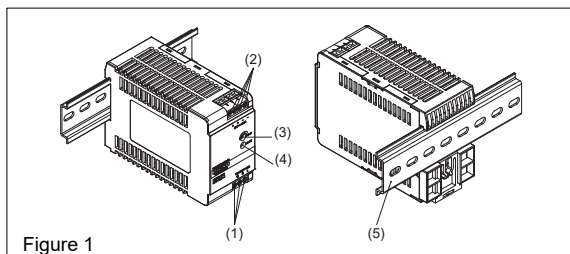
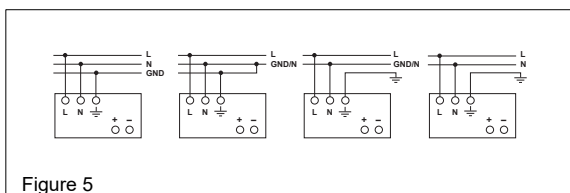

Figure 1
Figure 5
5.1. Input connection (Fig. 1, Fig. 5)
Use L, N and GND connections of input terminal connector (see Fig. 1 (1)) to establish the 100-240 VAC connection. Typical connection methods are shown in Figure 5.
5.2. Output connection (Fig. 1 (2))
Use the "+" and "-" screw connections to establish the 24VDC connection. The output provides 24VDC. The output voltage can be adjusted from 22 to 24 VDC on the potentiometer. The green LED DC OK displays correct function of the output (Fig. 1 (4)). The device has a short circuit and overload protection and an overvoltage protection limited to 30-34.8 VDC.